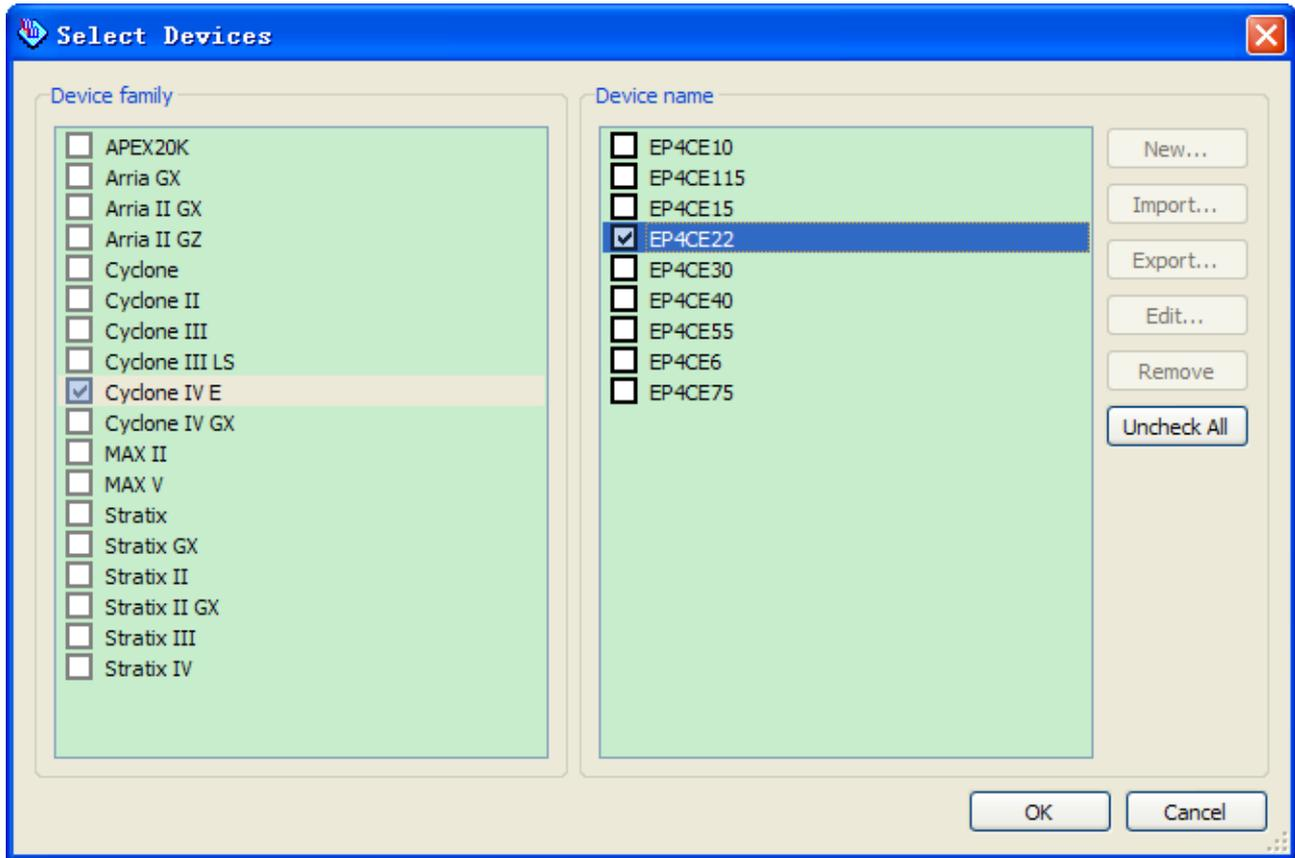

Figure 9-3 Select Devices Page
11. Select the targeted FPGA, Cyclone IV E EP4CE22, as shown in **Figure 9-3**.